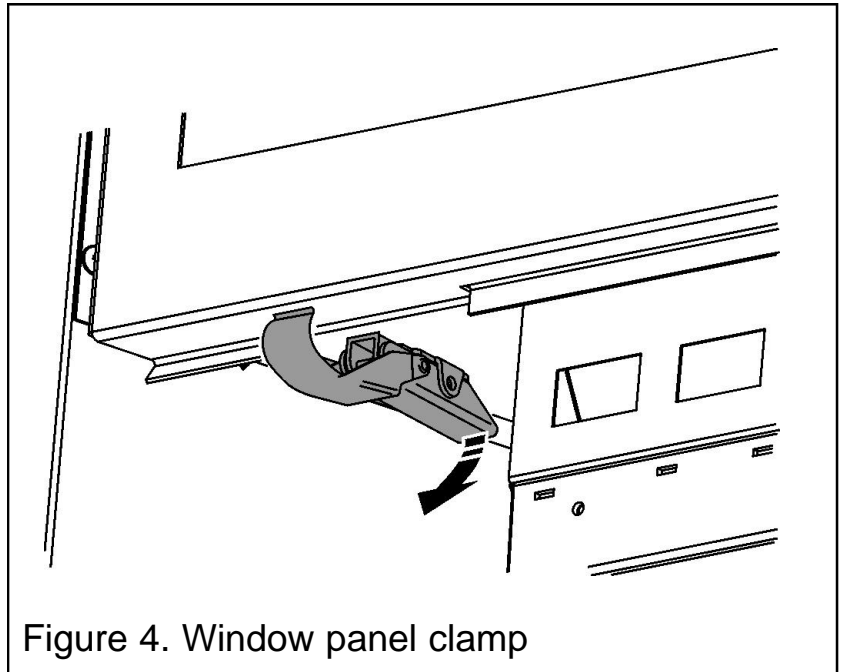

Figure 4. Window panel clamp
1. The ceramic fuel effect is packed inside the convector box. The window panel is secured at the bottom with two clamps. To release the clamps, hold at the rear and pull down (See figure 4).